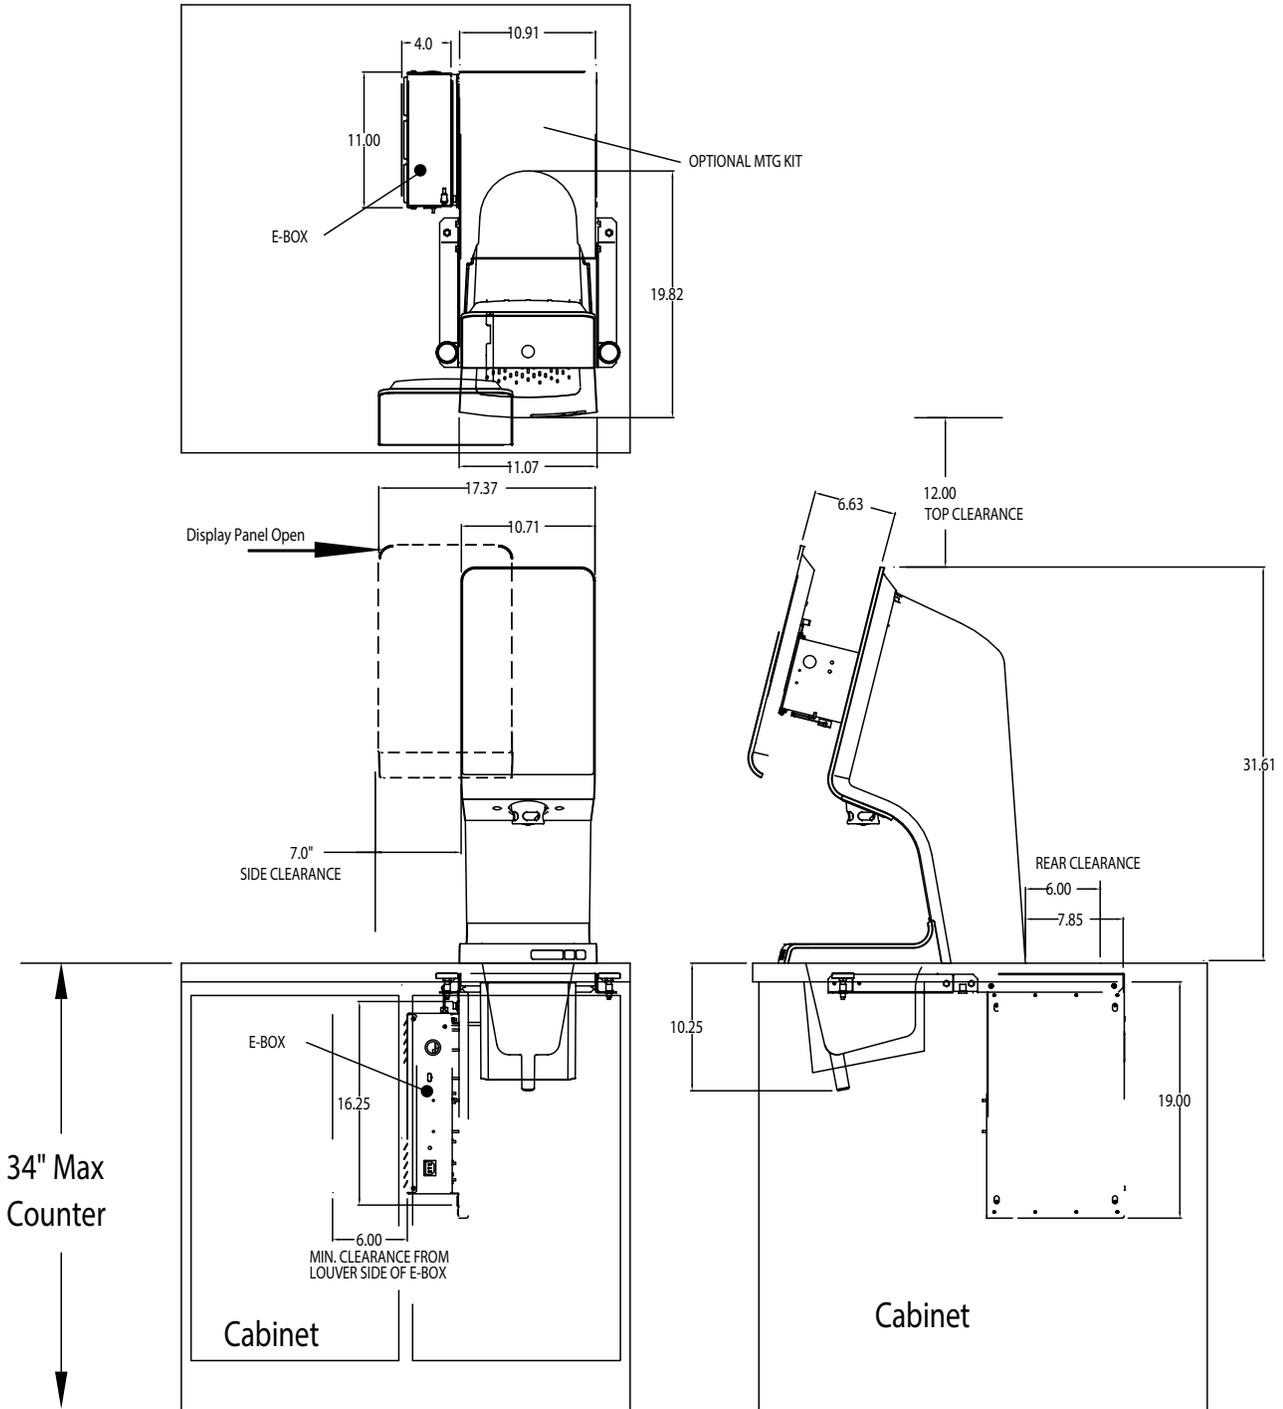

Figure 1 - Spire 2.0 Physical Dimensions
- Physical Dimensions of the Unit. See "Figure 1" on page 8.